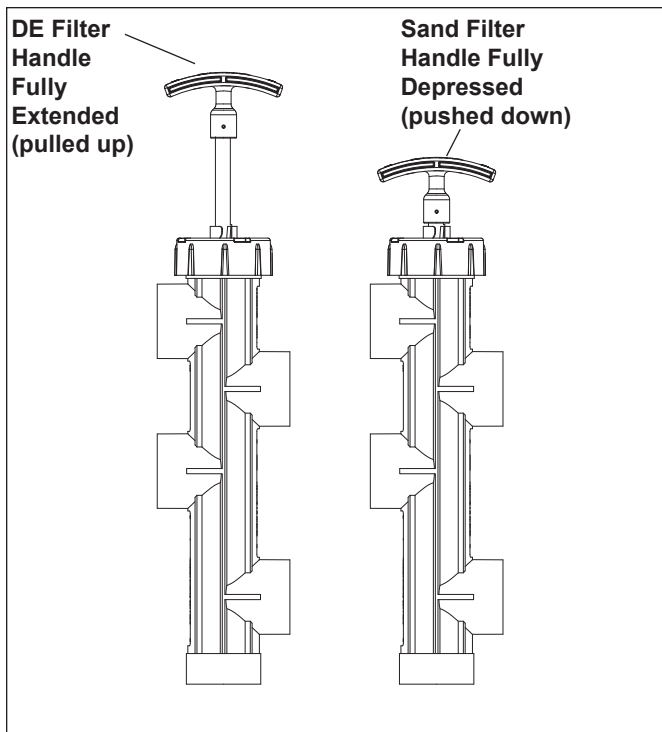

Figure 7. Handle Positions (SVLV2 shown)
3. (*Jandy DEL, DEV, and JS series Filters*) Ensure that the Slide Valve handle is fully extended (handle pulled all the way up). See Figure 7.
(Jandy DEL, DEV, and JS series Filters) Ensure that the Slide Valve handle is fully extended (handle pulled all the way up). See Figure 7.